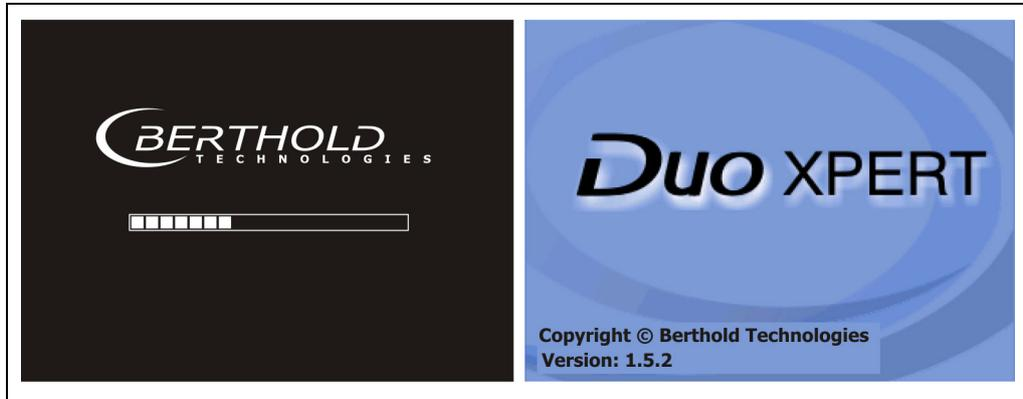

Fig. 24 Start screens with display of the software version
3. Open the terminal screw (Fig. 24, item 1) and insert the stripped wire (min. 8 mm).
6. Plug the network plug into the RJ45 socket (Fig. 24, item 4) (optional).
7. Check the correct connection of the PE conductor (Fig. 24, item 5).